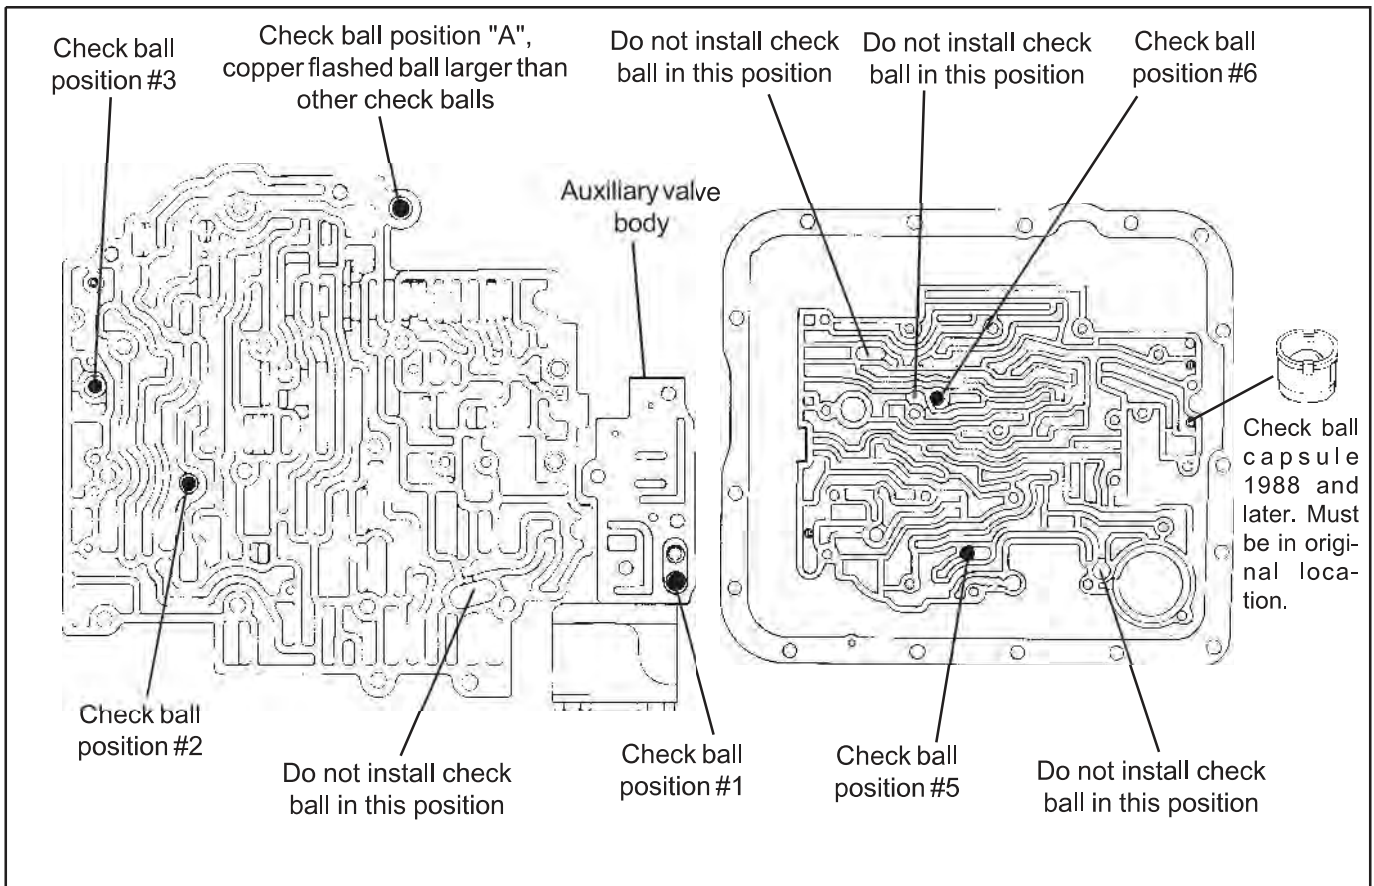
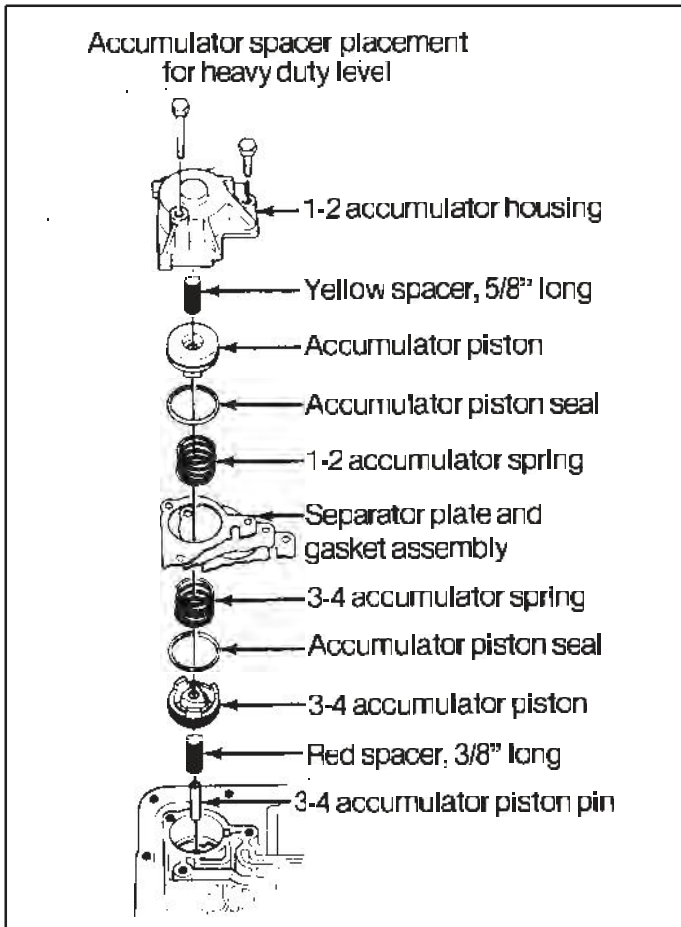

**Figure 8 - Transmission without auxiliary valve body (Before mid-1987)**
Figure 10
**STEP 5.** Beginning mid 1987 model year, TH-700's have an auxiliary valve body located where earlier models have a cover plate (See Fig. 2.) Remove the cover plate or auxiliary valve body. Be careful not to drop the check ball located in the auxiliary valve body (See Fig. 8.) Remove the 1-2 accumulator housing while holding the separator plate up to the case. Then slowly lower the separator plate and retrieve the check balls located above the plate. Make note of the **color** and **location** of the 1-2 and 2-3 accumulator springs for correct reassembly (See Fig. 10.) Remove all old gasket material from
**STEP 13. Heavy Duty Only;** Place the 3-4 accumulator pin in the case. Over the pin place the **RED** (3/8") spacer sleeve, accumulator piston and spring (spring is installed at step 18.) Use a dab of grease or petroleum jelly to hold components in place (See Fig. 10) Proceed to step 15.
**STEP 15. Heavy Duty Only;** Remove the spring and piston from the 1-2 accumulator housing (See Fig. 10.) Install over the pin the **YELLOW** spacer, piston (notice orientation) and spring. Proceed to step 17.